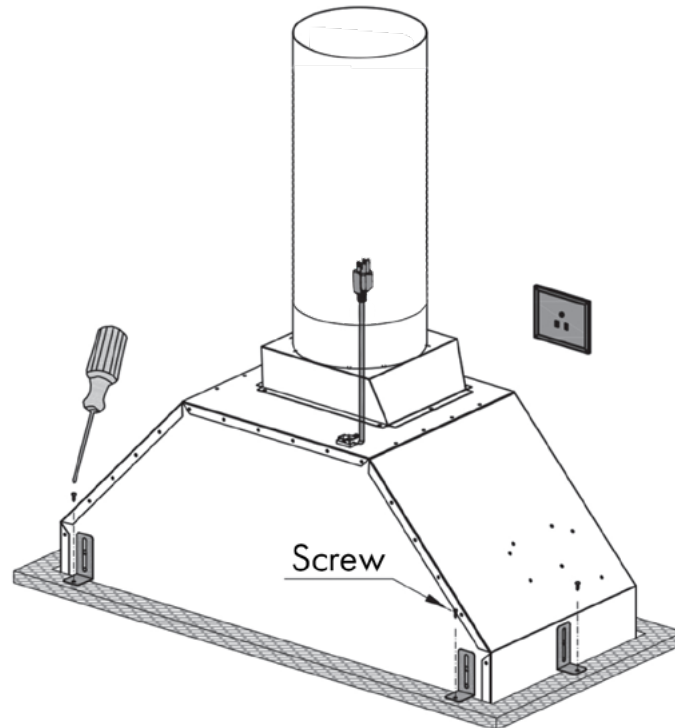

Figure 3
- Using a second person to assist, lift the range hood insert into your custom wall hood or island hood structure and secure to the hood with the remaining L bracket screws. *Figure 3*